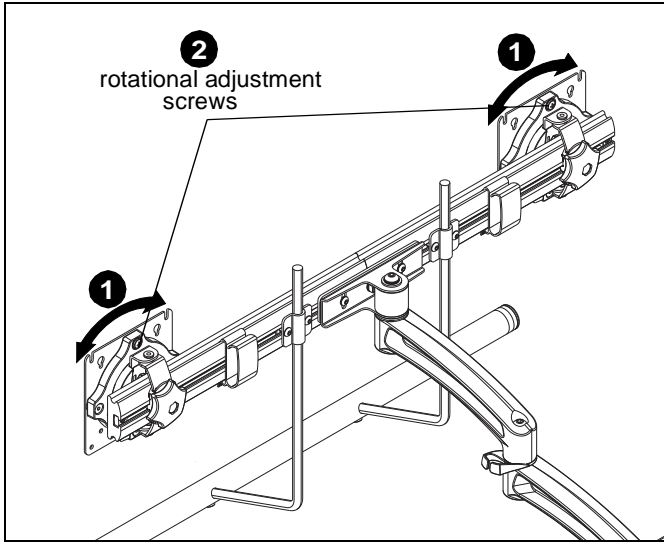

Figure 4
1. The monitor may be adjusted 90 degrees in either direction in order to provide a portrait view of the monitor. (See Figure 4)
2. Use Phillips screwdriver to adjust rotational adjustment screw to adjust rotational tension. (See Figure 4)